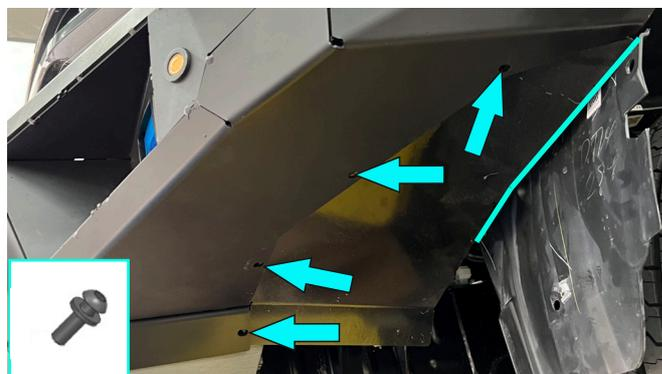

Fig.62
61. Install flaps (item 28, 29) using screws M6x20, washers 6 (item A, H) onto the bumper body on each side. *Tighten hardware after that. Push the flap to plastic fender and mark future cutting line. Cut plastic fender following marked cutting line using jig-saw or shears (fig. 62).